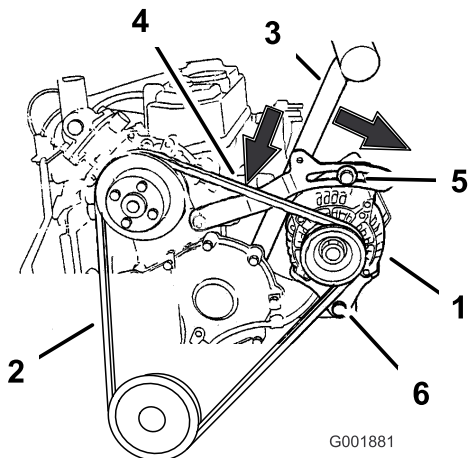

Figure 72
6. Loosen the two bolts holding the alternator (Figure 72).
7. Remove the belt from the pulleys and alternator (Figure 72).
8. Install a new belt around the pulleys and the alternator (Figure 72).
1. Place a handle between the alternator and cylinder block (Figure 72).
2. Adjust the alternator to the outside until there is 3/8 to 1/2 inch (10 to 13 mm) deflections in the belt between the engine and the alternator (Figure 72).
- If the deflection is correct, torque the upper bolt to 170 in-lb (19 N-m) and the bottom bolt to 45 ft-lb (61 N-m) (Figure 72).